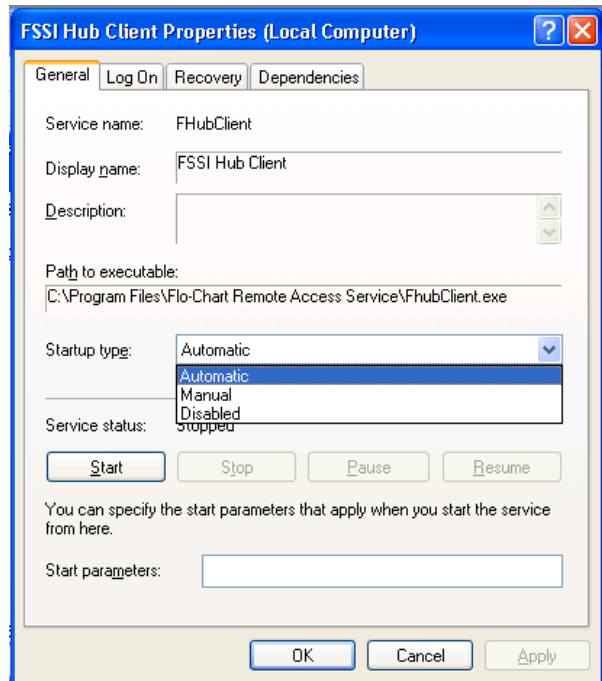

Figure 3
8. You can choose Automatic, or Manual as the Startup type. Figure 3.